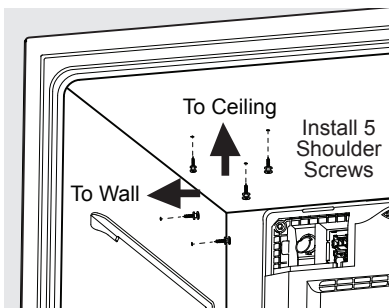

Figure 3
4. Locate dimples in the freezer liner for screw placement (a flashlight may help). Align the shoulder screws with the dimples. Push the screws to penetrate the freezer liner and drive the screws in until they are tight against the liner. Use 2 screws on the left side wall, and 3 on the top of the liner. See Figure 3.